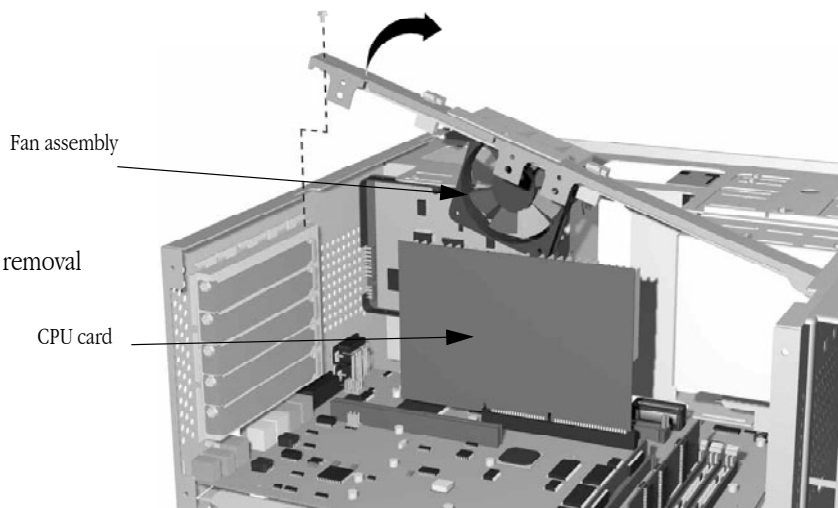

Figure 9: CPU removal
2. Lower the CPU card squarely into the slot so that the notch in the CPU card lines up with the notch in the slot. Slide the contacts straight into the slot and make sure the contacts are firmly seated. (see **Figure 9: CPU removal** on page 13). When properly seated, the contacts on the bottom should not be visible.